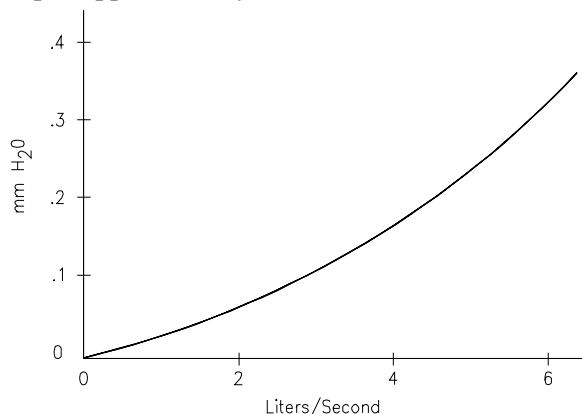

Figure 2-11. Pressure Drop vs. Air Flow
2. Establish the relationship between airflow and pressure drop. For a breadboard loaded with typical components (such as ICs, relays, and a few heat sinks), the curve shown in Figure 2-11 may be used to determine the pressure drop across the module. Determine the pressure drop as the intersection of the curve and the required airflow. For example, if the airflow required is 1.6 liter/second, the pressure drop is approximately 0.04 mm H₂O.